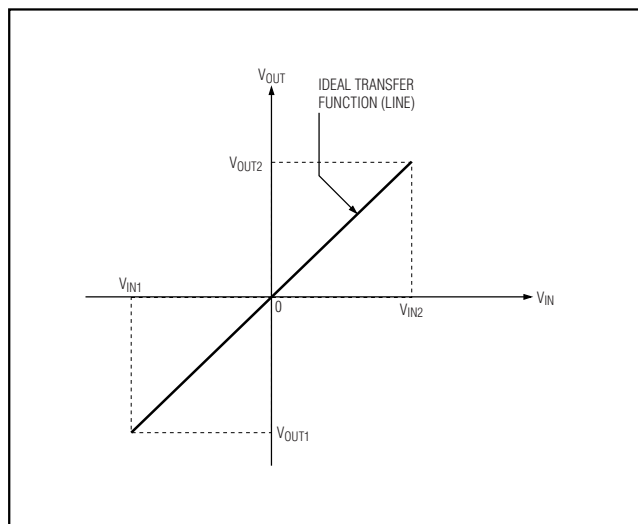
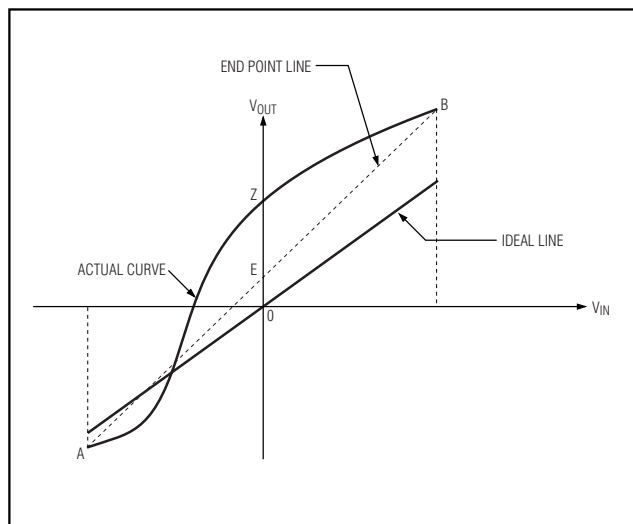
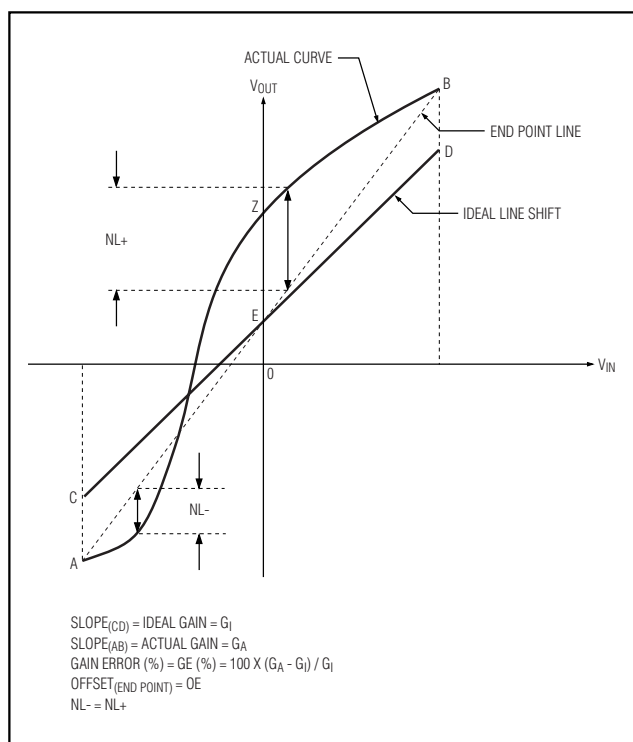

Figure 3. Transfer Function of an Ideal Instrumentation Amplifier (A Straight Line Passing Through the Origin)
Figure 4. Typical Transfer Function for a Real Instrumentation Amplifier
Figure 5. Typical Transfer Function for a Real Instrumentation Amplifier (Ideal Line (CD) is Shifted by the End Points Offset (OE) to Visualize Gain Error)
In order to understand these terms, we must look at the transfer function of an ideal instrumentation amplifier. As expected, this must be a straight line passing through origin with a slope equal to the ideal gain (see Figure 3). If the ideal gain is equal to 10 and the extreme applied input voltages are -100mV and +100mV, then the value of the output voltages will be -1V and +1V, respectively. Note that the line passes through the origin and therefore a zero input voltage gives a zero output response.
The transfer function of a real instrumentation amplifier is quite different from the ideal line pictured in Figure 3. Rather, it is a curve such as the one indicated as the typical curve in Figure 4, connecting end points A and B.
Second, even if there was no nonlinearity error, that is, the actual curve in Figure 4 was a straight line connecting the end points A and B, there exists an obvious slope deviation from that of an ideal gain slope (drawn as the "ideal" line in Figure 4). This rotational error (delta slope) is a measure of how different the actual gain (G_A) is from the expected ideal gain (G_I) and is called Gain Error (GE) (see equation).
Figure 5 is the same as Figure 4, but the ideal line (CD) is shifted up to pass through point E (the Y intercept of the end points line AB).
The rotational nature of gain error and the fact that it is pivoted around point E in Figure 5, shows that gain-error contribution to the total output voltage error is directly proportional to the input voltage. At zero input voltage, the error contribution of gain error is zero, that is, the total deviation from the origin (the expected zero output value) is only due to end points offset error (OE) and nonlinearity error at zero value of input (segment EZ on the vertical axis).
The nonlinearity is the maximum deviation from a straight line, and the end point nonlinearity is the deviation from the end-point line. As shown in Figure 5, it is likely that one encounters two nonlinearities, one positive and the other a negative nonlinearity error, shown as NL+ and NL- in Figure 5.